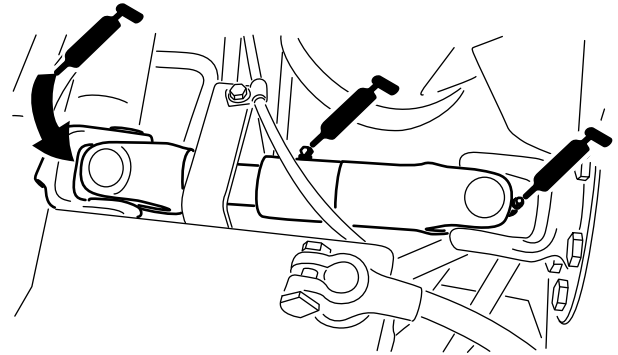

Figure 27
- Pump driveshaft U-joint (3) (Figure 27)